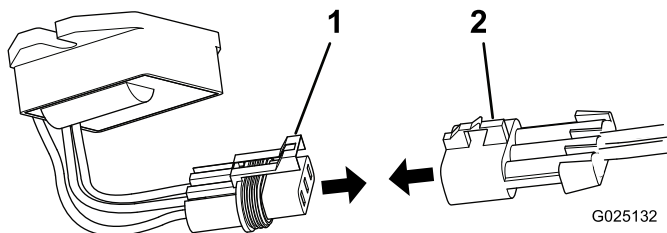

Figure 8
6. Connect the plug on the regulator to the appropriate plug on the wireless-hour-meter wiring harness (Figure 8).